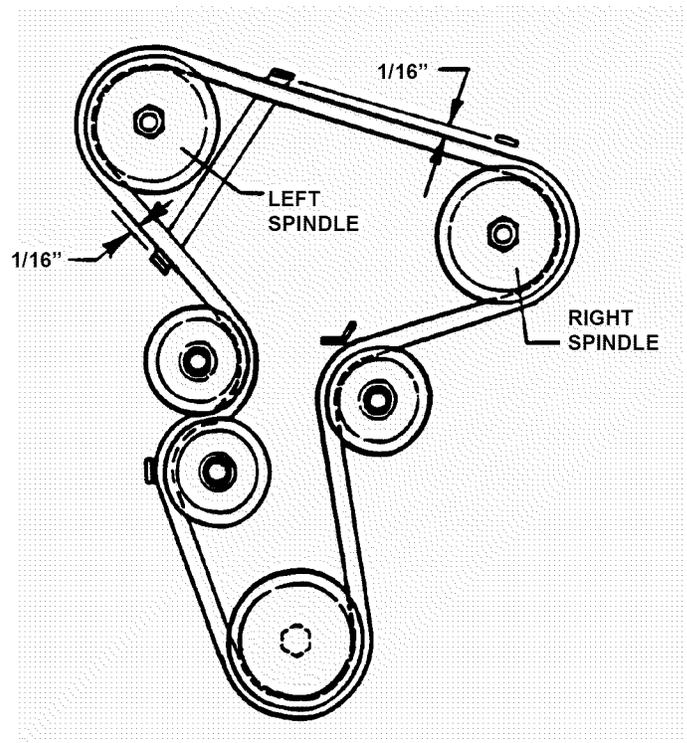

FIGURE 4.16
11. Adjust belt guide. See Figure 4.16 for proper belt-to-belt guide clearances.